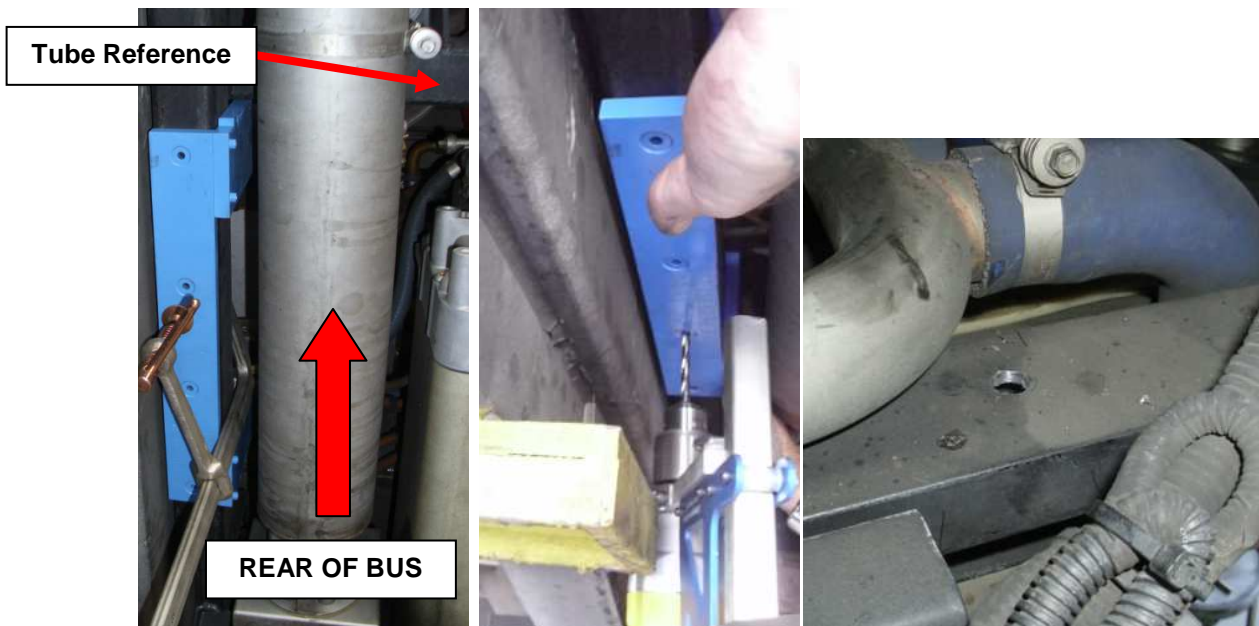

Figure 24: Generator Mount Drilling
- b. Using the generator mount drill jig (Blue Jig # LF-DJ-2027), locate per Fig 24 (ensure jig stop is against tube reference) and drill through the entire tube using a 1/4" diameter drill bit. Using the new 1/4" holes as a guide, open the tube holes to 7/16" (0.4375").